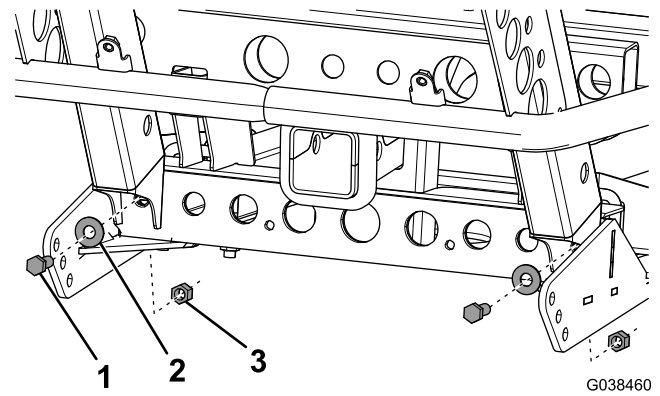

Figure 3
6. Loosely secure the front of the skid plate to the vehicle frame using 2 hex-head bolts (3/8 x 1 inch), 2 washers, and 2 locknuts (3/8 inch) as shown in Figure 3.